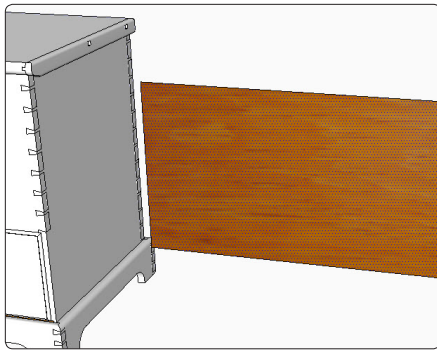
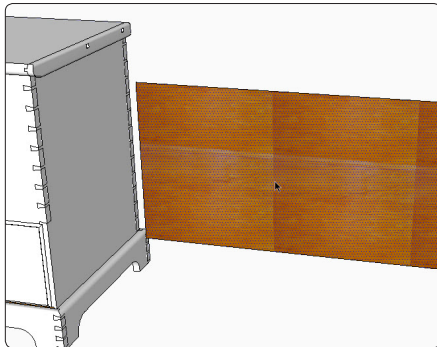

Figure 14. Size the texture to completely fill the rectangle.
Figure 15. If the imported image doesn't fill the rectangle, it will be tiled. That leaves unsightly seams.
Step 5 Size the texture to completely cover the face of the rectangle, as shown in Figure 14. If you don't, SketchUp places multiple tiles to fill up the space, not a smooth finish (Figure 15). Depending on the size of the original photo, filling the rectangle completely may enlarge the wood grain. You should still have acceptable results, however.